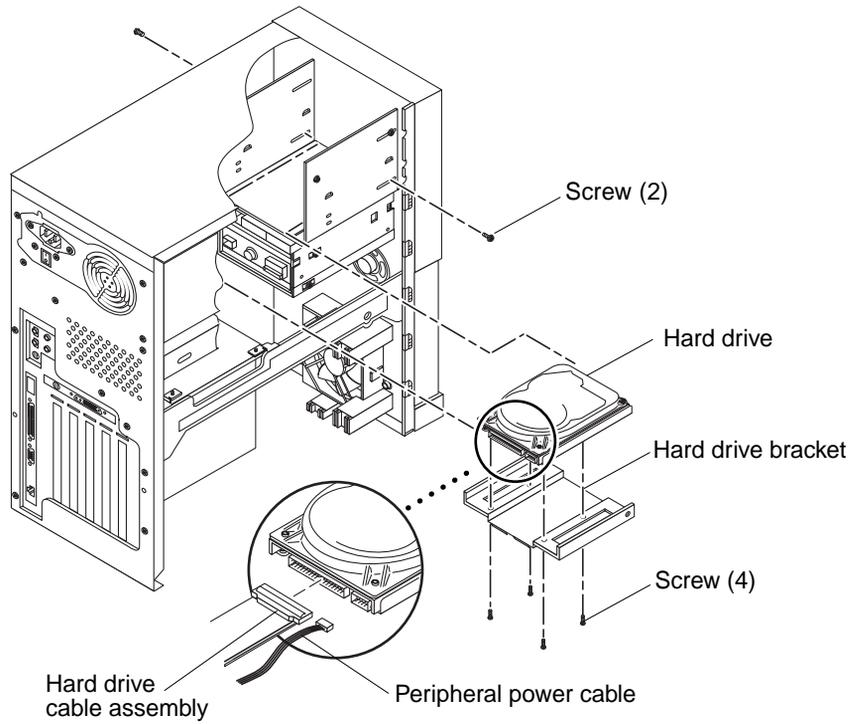

FIGURE 9-7 Removing and Replacing a Hard Drive (Ultra 10 Chassis Front)
7. Remove the hard drive from the Ultra 10 chassis front as follows (FIGURE 9-7):
4. Replace the hard drive into the Ultra 10 chassis front as follows (FIGURE 9-7):